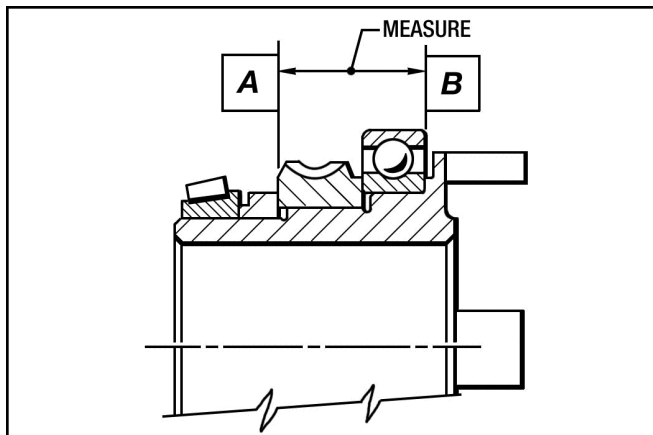

Figure 9.4 - Measuring For Shim Thickness
2. To determine Shim (#137) thickness, measure from **Surface 'A' to Surface 'B'**, (See Figure 9.4).